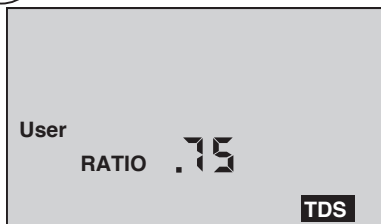

Figure 4
- b. Press  $\left(\frac{\text{CAL}}{\text{MCLR}}\right)$  twice (to skip over tempco adjustment) and “**RATIO**” will appear (see Figure 4).